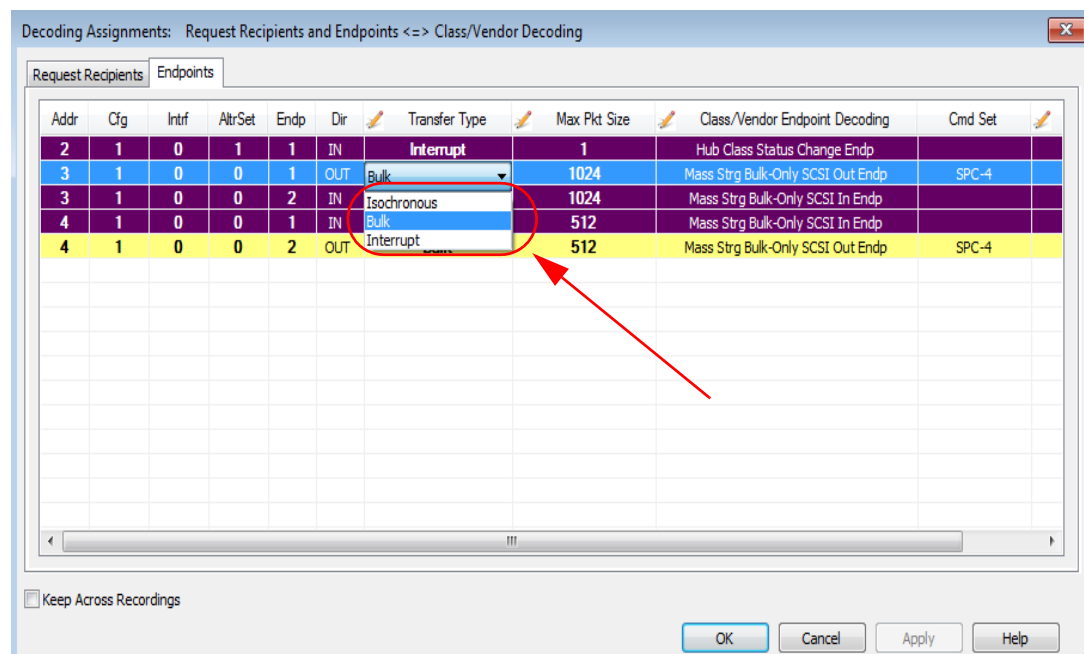

Figure 9.4: Transfer Type Drop-down Menu.
4. Display the **Transfer Type** drop-down menu in Figure 9.4: